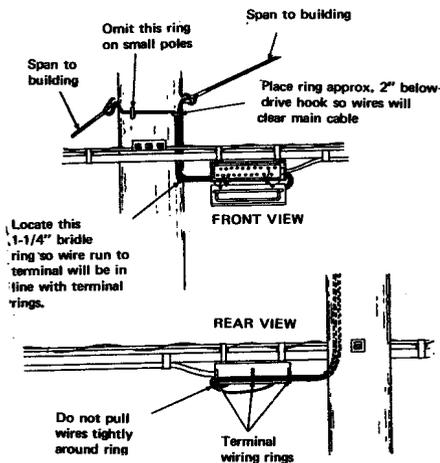

FIGURE 11. Drop Wire Run to Sheath Mounted Terminal
- 8.03 Drop wire runs to sheath mounted terminals are shown in Figure 11. The same method applies to terminals installed on ring supported cable. Run wires through rubber grommets in wire entrance holes. Place two drop wires through a wire entrance hole when required.